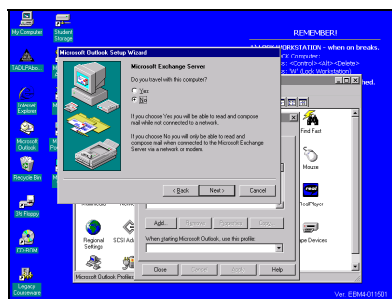

FIGURE II.8
- 8) The next setup window asks, “Do you travel with this computer”. (see figure II.8) Select “No” and press “next” to continue.